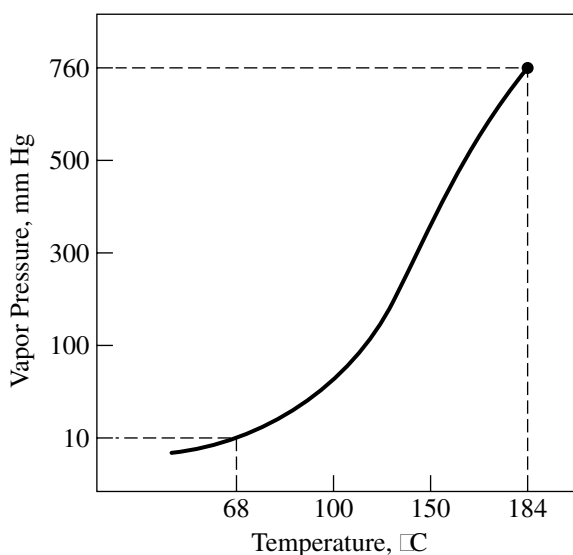

Figure 4.1
Normal distillations, procedures carried out at atmospheric pressure, require “normal” boiling points. However, when boiling takes place in a closed system, it is possible to change the boiling point of the liquid by changing the pressure in the closed system. If the external pressure is reduced, usually by using a vacuum pump or a water aspirator, the boiling point of the liquid is reduced. Thus, heat-sensitive liquids, some of which decompose when boiled at atmospheric pressure, distill with minimum decomposition at reduced pressure and temperature. The relation of temperature to vapor pressure for the organic compound aniline can be shown by the curve in Figure 4.1. The organic liquid aniline, $C_6H_5NH_2$,
4. Using Figure 4.1, predict the approximate temperature at which aniline will boil when the pressure is reduced to (a) 400 mm Hg and (b) 100 mm Hg.